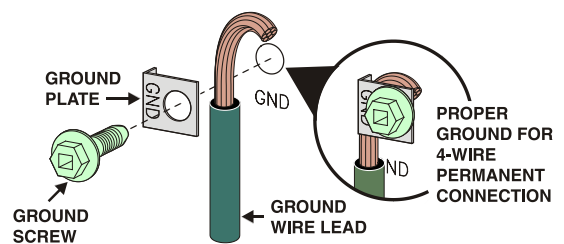

Fig. 15
4. (4-Wire Permanent Connection ONLY) Connect the ground wire lead (Green) to the frame of the appliance using the ground screw & plate as shown in Fig. 15. Be sure to install using the same hole in the frame where the ground screw was originally installed.